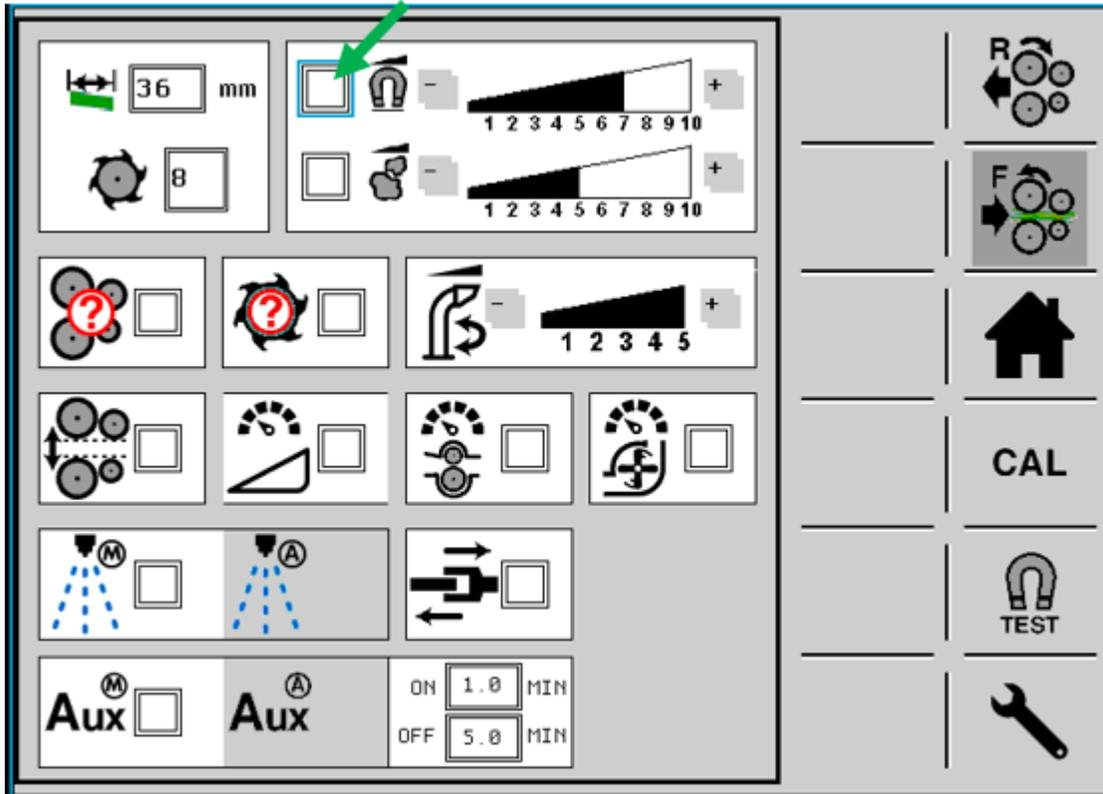

Figure 67 Metal detector deactivation
When the metal detector fails to operate, it can be useful to by-pass the system in order to complete a full harvest day. However, when doing so, it must be taken into consideration that this is an **emergency and exceptional situation**. If this is the case, follow this procedure and refer to FIGURE 67.
2. Uncheck the metal detector by touching the box in FIGURE 67.